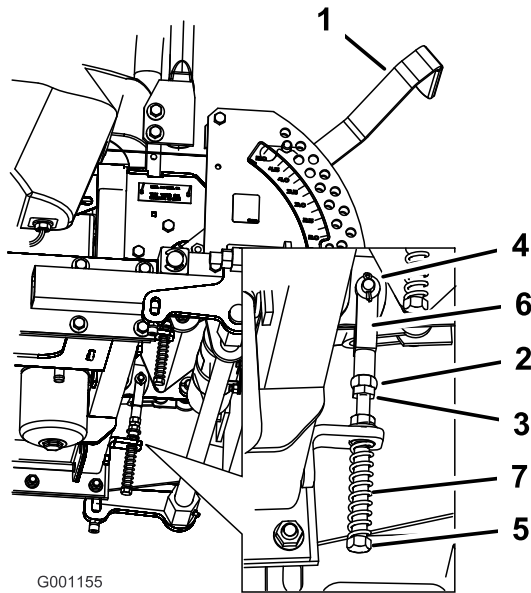

Figure 64
8. If adjustment is needed, loosen the nut and jam nut against the yoke (Figure 64).
- Apply slight rearward pressure on the motion control lever, turn the head of the adjustment bolt in the appropriate direction until the control lever is centered in the neutral lock position (Figure 64).
- Tighten the nut and jam nut (Figure 64).